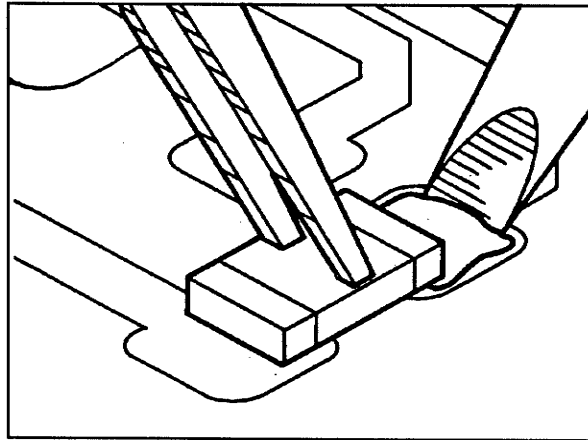

Figure 4 - 3
5. With one component end tacked to hold it, the other end can be soldered. Carefully apply heat to the PC pad while adding only enough fresh solder to produce a clean fillet as in **Figure 4 - 4** — do not apply too much solder, otherwise it may flow underneath and short the pads together. Let the hot solder flow onto the component—do not touch the component with the iron. Repeat to finish the other end of the component. Solder must adhere to all metallic end-surfaces on both ends as shown in **Figure 4 - 5**.